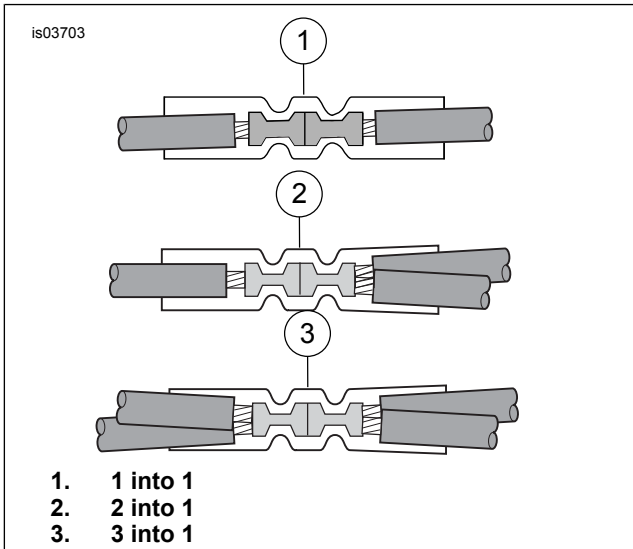

Figure 7. Splice Configurations
3. See Figure 7. Identify the splice configuration required.